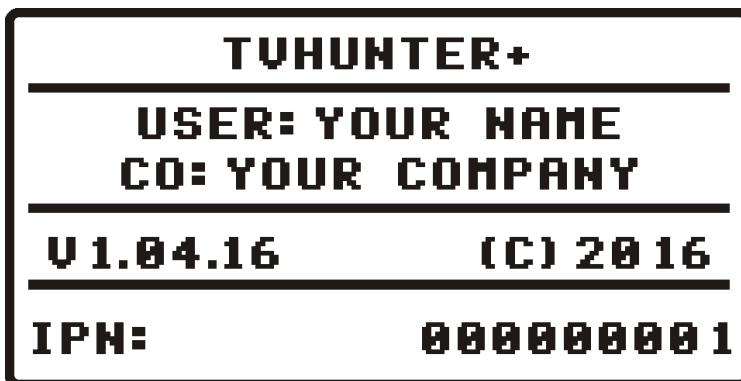

Figure 3. Name of the instrument (TVHUNTER+), user's name, company, firmware's version (v1.04.16), year and serial number.
- 5 Next, a screen will display the instrument's name, company and user names (editable by software) and the current version of firmware (Figure 3.).